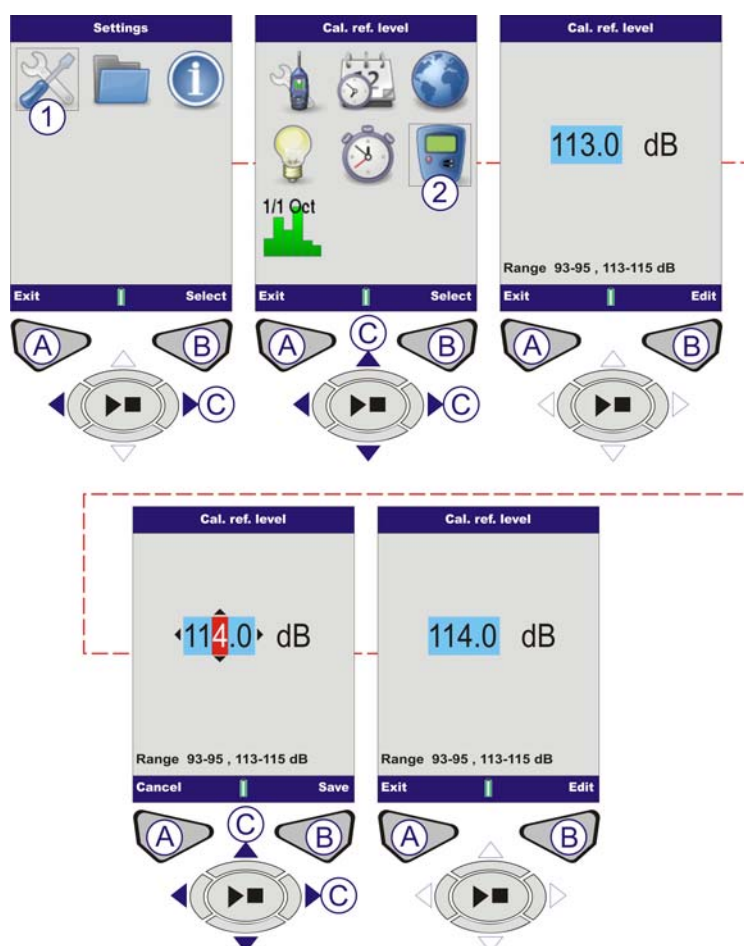

Figure 9 Calibration Reference Level
G. CAL. REF. LEVEL (Refer to Figure 9)